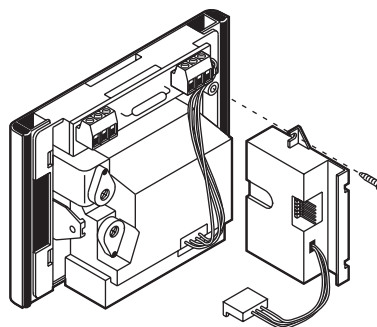

Fig. 1
1. Insert the adapter device to the side of the TV camera unit and secure it with the screw provided (Fig. 1).